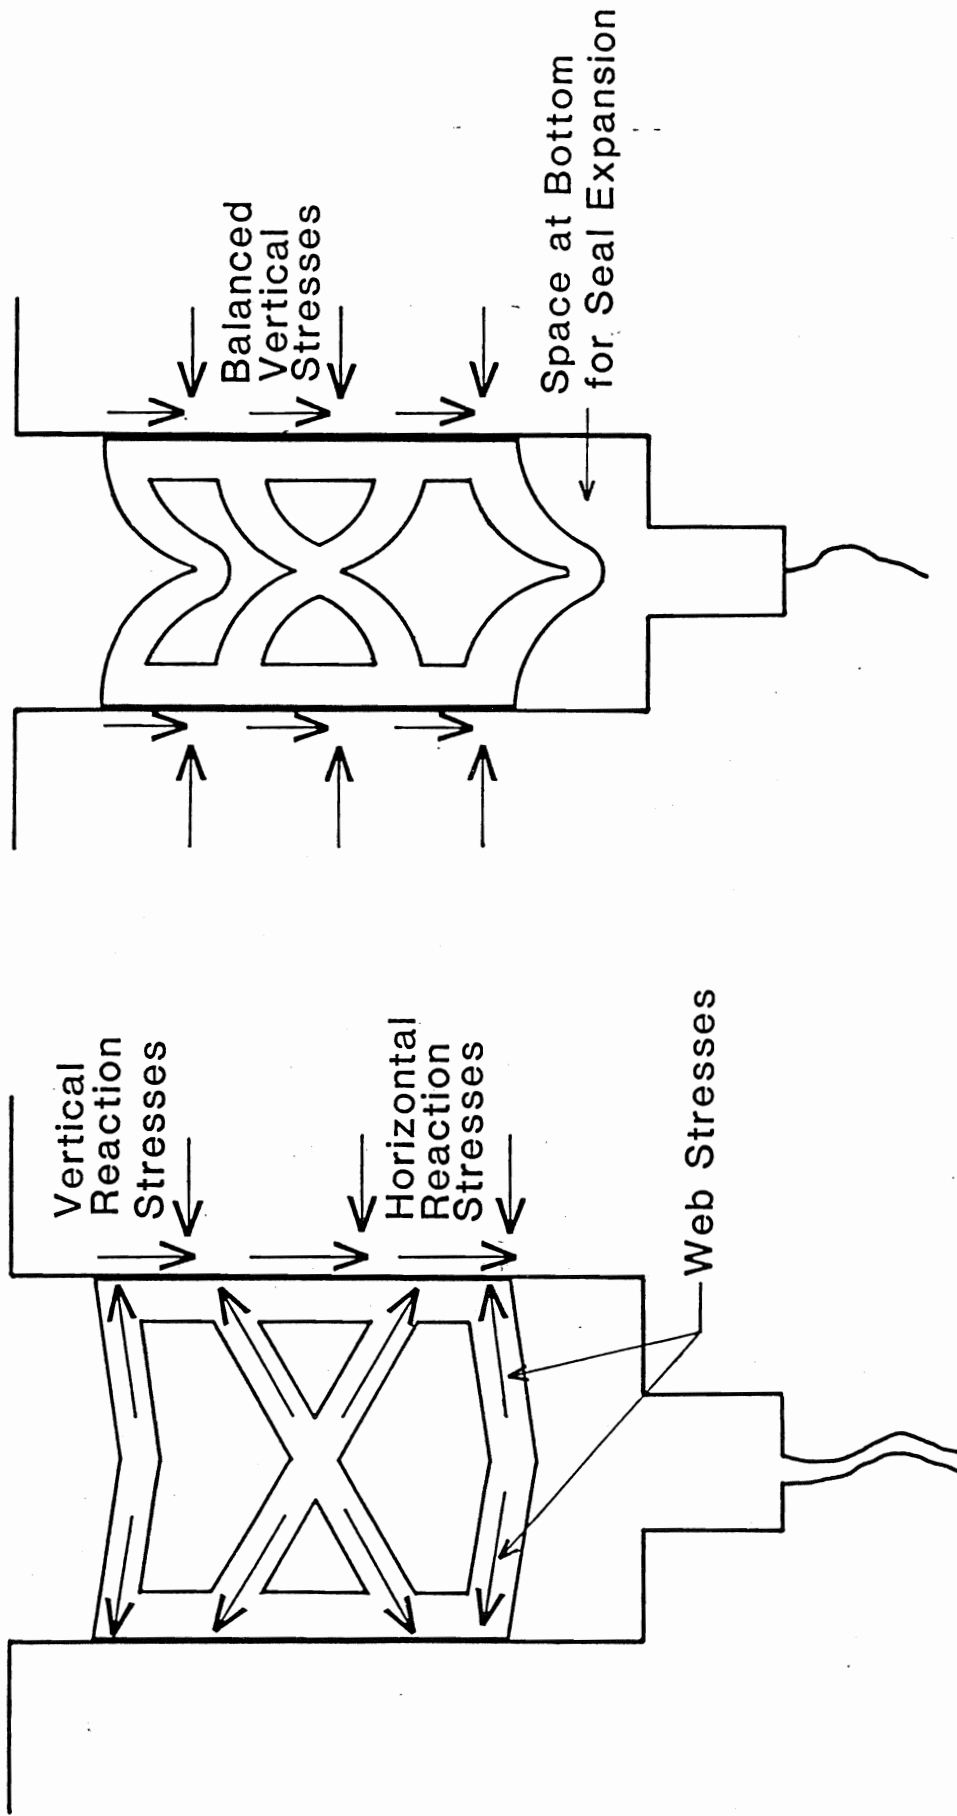

Figure 6. Stresses in Preformed Elastomeric Compression Seals.
3. Preformed Compression Seals (Fig. 6)